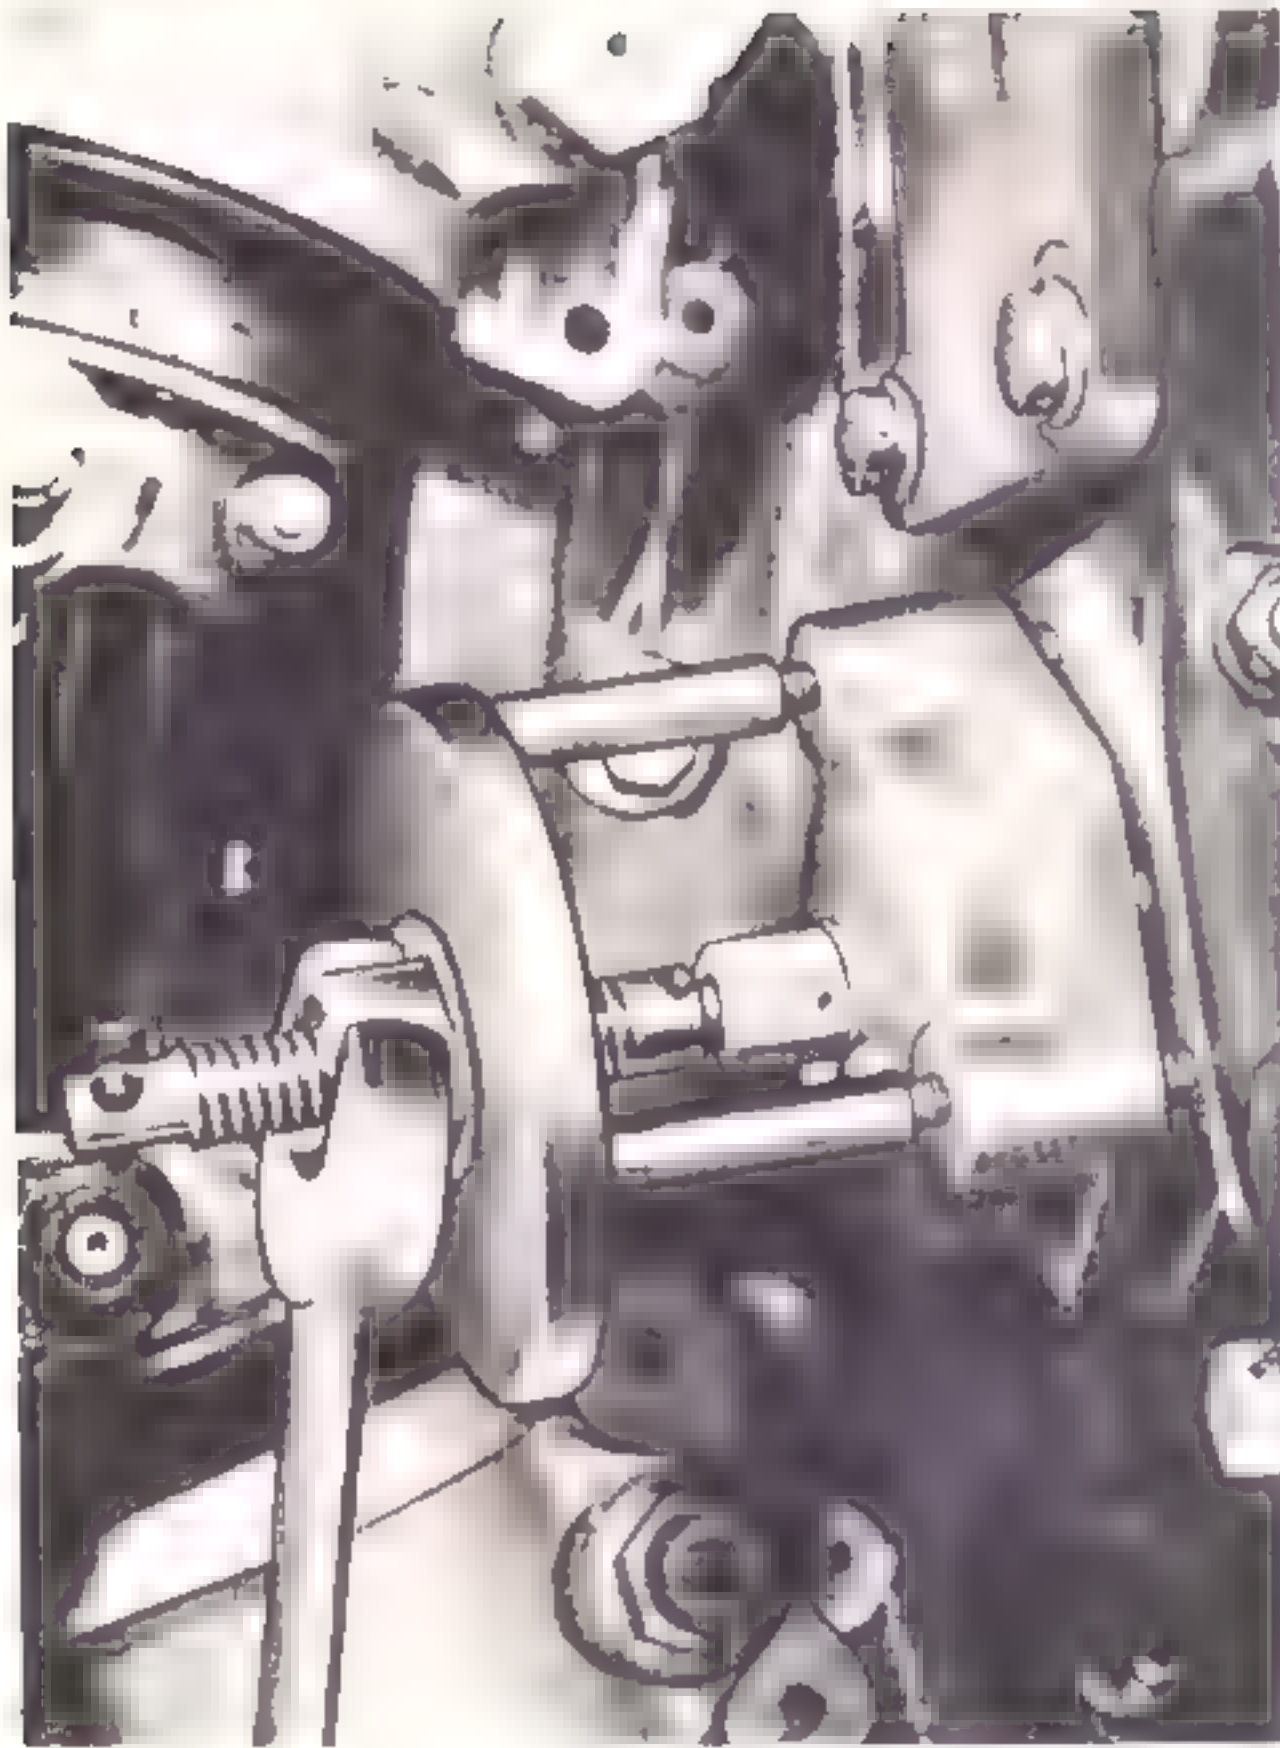

Figure 5-42 Pulling oil strainer assembly
c. Install puller, part No. 923071, FSN 5120-490-7259, and remove oil strainer assembly. (See figure 5-42.)